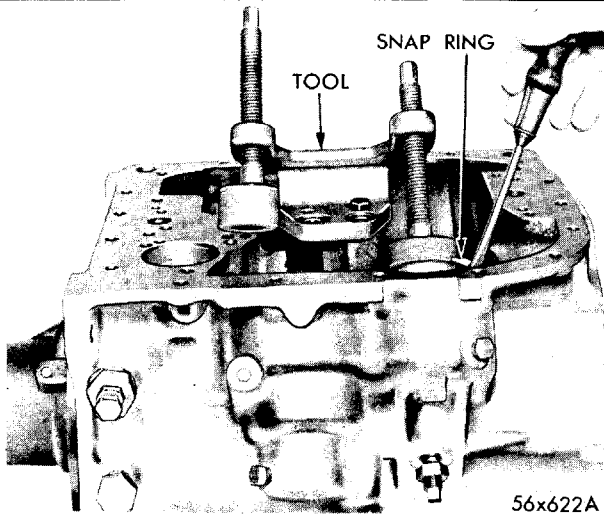

Fig. 48—Removal and Installation of Low-Reverse Servo Piston Spring Retainer Snap Ring
(1) Install Tool C-3529 or C-3289 (modified) and depress the reverse servo piston retainer to permit the removal of the snap ring with a screwdriver. (Fig. 48). Remove the snap ring.
(2) Remove tool from case.
(3) Remove retainer spring, and piston assy.